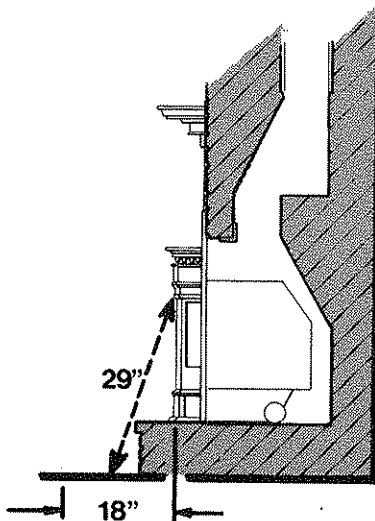

FIG. 3 HEARTH EXTENSION
- After the Insert is installed, measure the distance between the top of the Insert doors and the floor in front of the hearth. If that dimension is 29" or less, use 24 gauge sheetmetal, covered by 3/4" layer of non-combustible materials. If that dimension is greater than 29", the hearth extension may consist of 3/8" non-combustible material only (see Fig. 3).